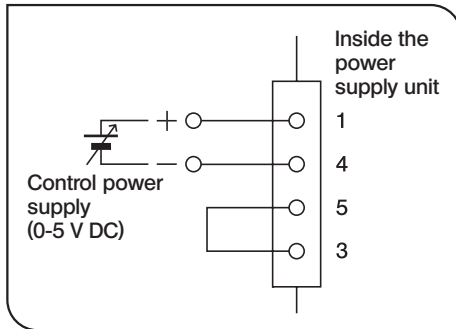

Fig. 5
Controlling the Amount of Light According to External Analog Voltage (Fig. 5)
1. Connect a DC power supply as shown in Fig. 5. Do not turn on the power supply yet.
2. Set the main switch to "I" (ON).